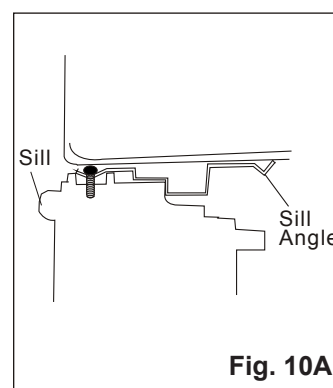

Fig. 10A
2. Place cabinet in window with bottom sill angle firmly seated over window sill as shown. (See Fig. 10A.) Bring window down temporarily behind top angle to hold cabinet in place.